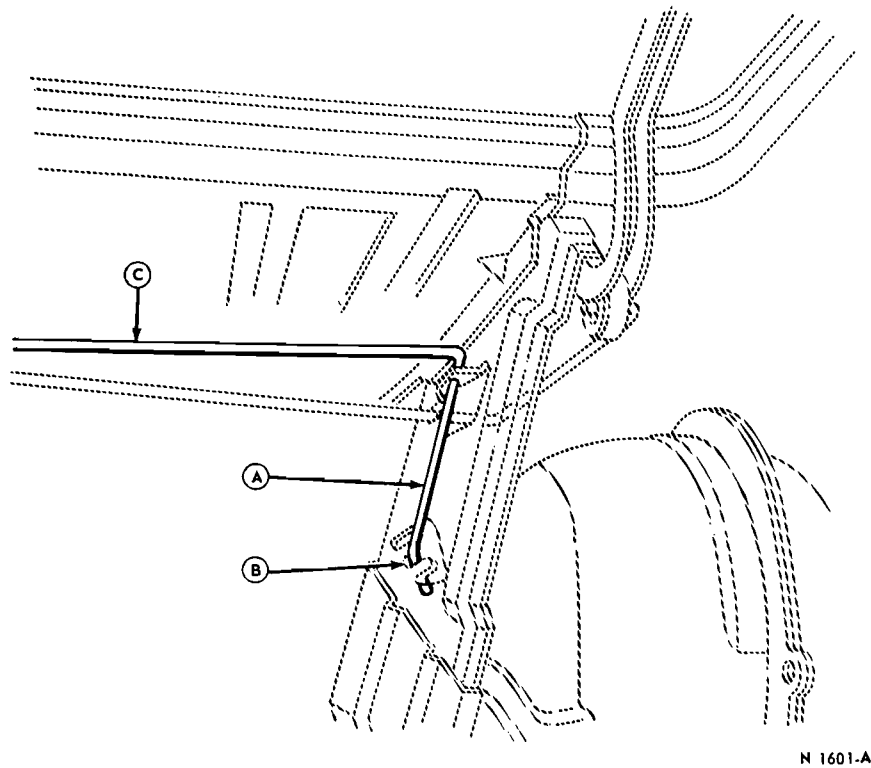

FIG. 17—Torsion Bar Adjustment — Falcon, Fairlane and Mercury Intermediate — Typical
5. To adjust the torsion bar tension on Falcon, Fairlane or Mercury Intermediate models, grip the torsion bar with a pipe wrench at point A shown in Fig. 17. Then, lift the end of the pipe wrench to rotate the bar out of the slot at point B into another slot to increase or decrease the torsion bar tension, as desired. It may be necessary to force the bar down at point C after adjustment.